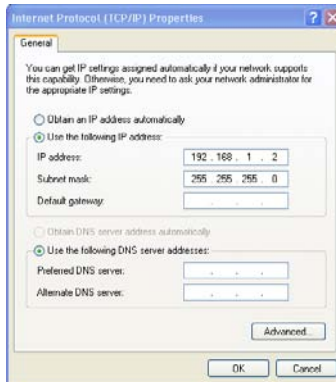

Figure 7: Internet Protocol (TCP/IP) Properties Window
6. Select Use the following IP address, and fill in the details as shown in Figure 7.